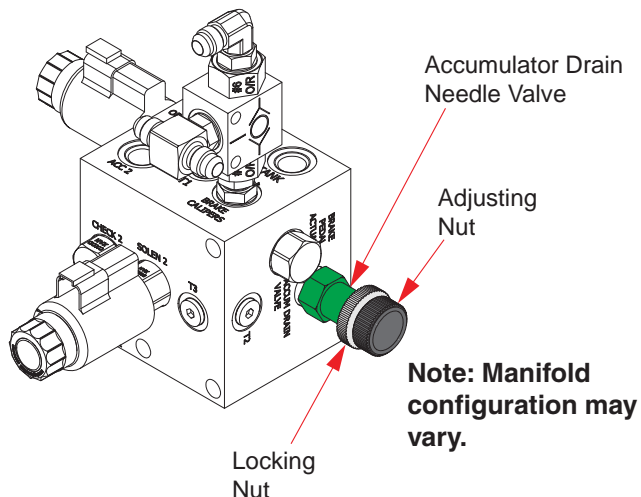

Figure 1 - Brake Manifold
**Note: If the brake manifold assembly does not include a needle valve, apply brakes several times until accumulators are drained completely. Skip ahead to item 6.**
4. Open accumulator drain needle valves on brake manifold to relieve hydraulic pressure. Turn the locking nut counterclockwise (CCW) until it is against the adjusting nut. Turn the locking nut and adjustable nut CCW all the way out (see Figure 1).
5. Verify accumulators have correct nitrogen pre charge (refer to hydraulic schematic and 80-1076 Hydraulic Piston Accumulators Service Form). Close accumulator drain needle valves (see Figure 1).
**IMPORTANT! In order to properly close the needle valve, turn the locking nut CCW until it is against the adjusting nut. Turn the adjusting nut with locking nut clockwise (CW) until it stops. Turn the locking nut CW until it stops and is hand tight (see Figure 1).**